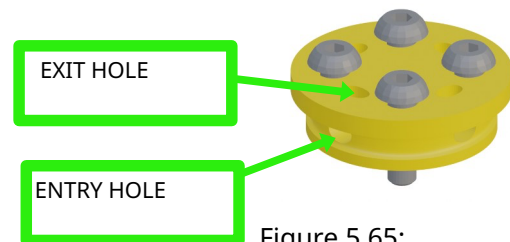

Figure 5.65:
4. Insert the end into the bottom left hole of the spooler and pull it out from the corresponding exit hole of the same spooler (figure 5.65), make sure that the amount of tendon coming out of the hole is long enough to prevent it from slipping out again.